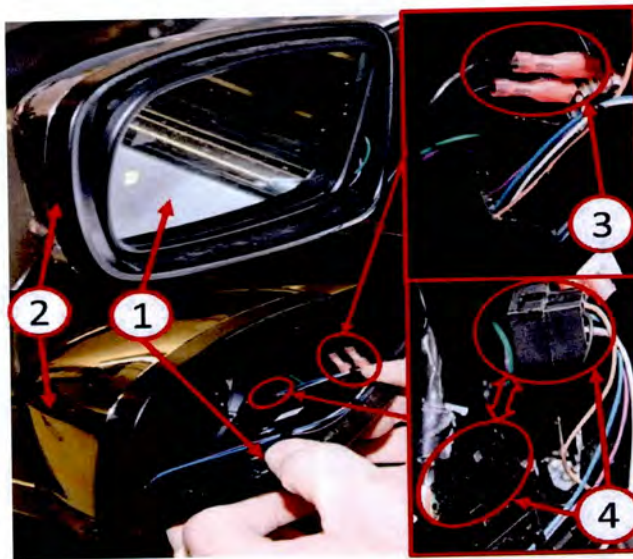

Fig. 1 Door Mirror Glass Removal
1. Position the mirror glass case (1) into the full downward position on both exterior mirror assemblies (Fig. 1).
3. Place thumbs behind mirror glass case (1) and push out from the mirror assembly (2). This will disengage the mirror glass case's top snap attachment features (Fig. 1).
4. If equipped, disconnect the blind spot indicator and heater wires (3) by pulling on thumb tabs (Fig. 1).
5. Disconnect the mirror glass motor electrical connector (4) (Fig. 1).